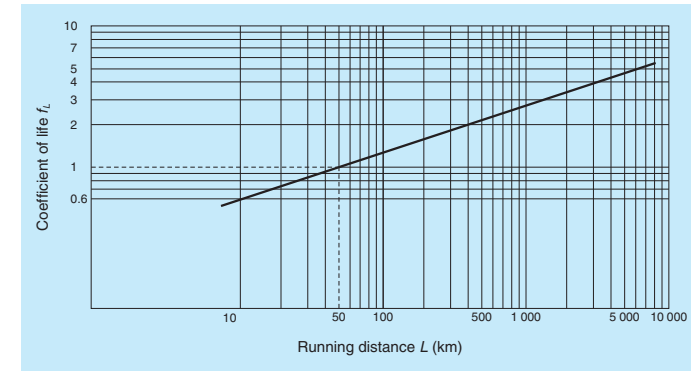
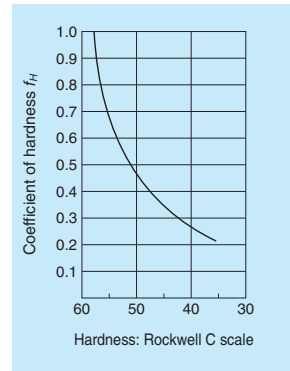

Fig. 4 Relationship between life factor and running distance
Fig. 5 Hardness factor
- P: Radial load (N)
- f_L*: Life factor (Refer to Fig. 4)
This formula is used provided that the shaft hardness is HRC58 or higher. Rated life is shorter if the shaft is softer. In this case, find the hardness factor *f_H* from Fig. 5, and multiply the value.
From Fig. 4 and Fig. 5,